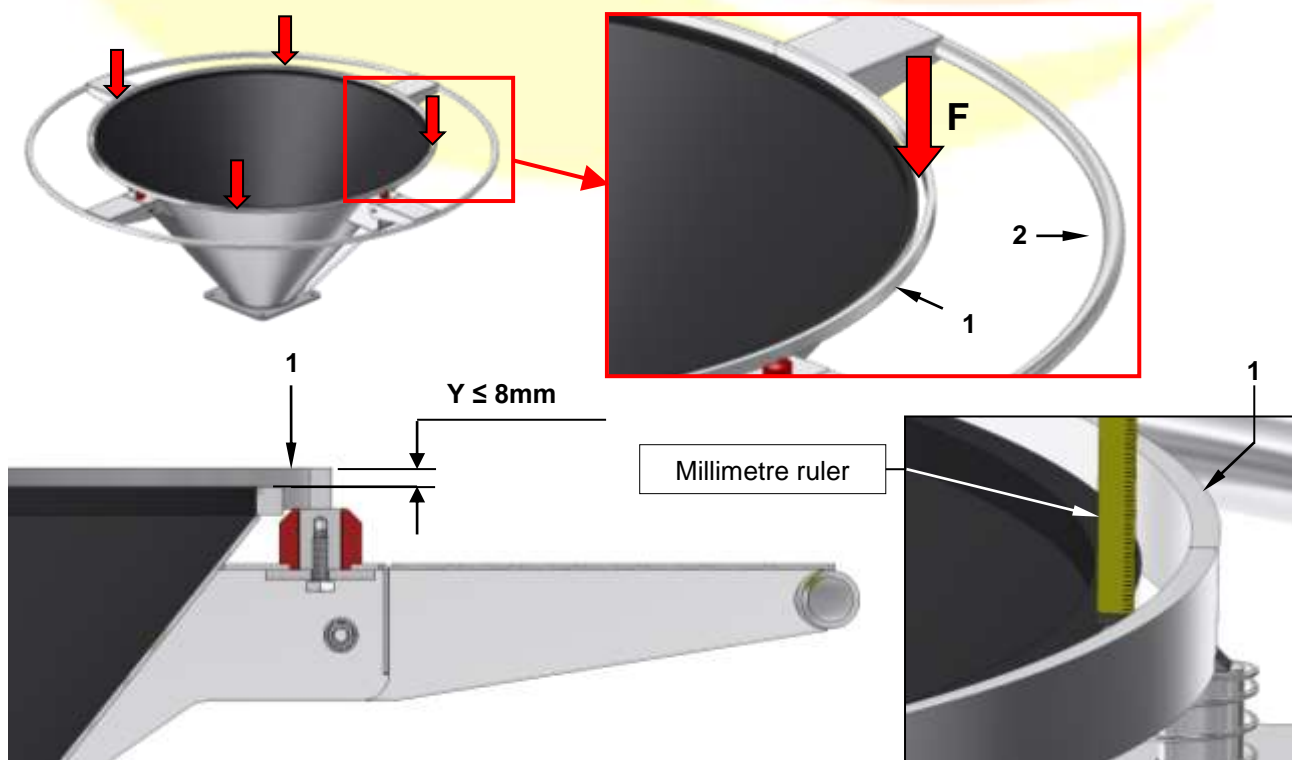

Figure 42 – Check the efficiency of the sensor ring
- Sensor ring and spacer ring** on top of the hopper (in alternative to the protection referred to in point 2). The sensor ring is a metallic ring supported by springs along the upper rim of the hopper and attached to it (see Figure 42). It is associated with two safety micro-switches which, if the ring is lowered by more than 8 mm (for example, because someone or something puts pressure on it, triggers the emergency shut-down of the machine, which occurs almost immediately (a fraction of a second). In order to restart the machine, first it is necessary to free the sensor ring so that it returns to its original position, then press the RESET button indicated with ref. 3 in the figures of par. 2.4. The spacer ring (in stainless steel) is fixed with screws to the hopper; its purpose is to increase the distance between the operator and the danger zone in the hopper, in compliance with the criteria of standard EN 12042:2014.
1. **Check the efficiency of the micro-switches associated with the sensor ring and the condition of the spacer ring.** In order to carry out this test, the operator will need a normal dynamometer, digital if possible (easily found on the market), with a lower limit no higher than 100 N (10 kg approximately). Carry out the test with no dough in the hopper. With reference to Figure 42, hang the dynamometer on any point of the sensor ring ref. 1. Start the machine and as soon as it starts moving, use the dynamometer to exert a force F downward on the ring. The safety system must trigger the shut-down of the machine when a force F is exerted that, subtracting the weight of the dynamometer, must result no higher than 50 N (5 kg approximately) and, when the ring ref. 1 is subject to downward pressure Y , no greater than 8 mm (check with a ruler or using a tape with a millimetric scale). Carry out the test in at least 4 equidistant points as in the example of Figure 42.